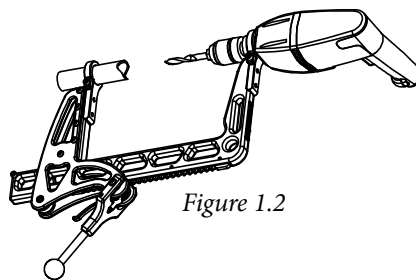

Figure 1.2
6. Mount the drill clamp to the Rapidrill body using the 1/4" hex socket head fasteners. Typically the drill is mounted on the end opposing the Rapidrill carriage. (See Figure 1.2)